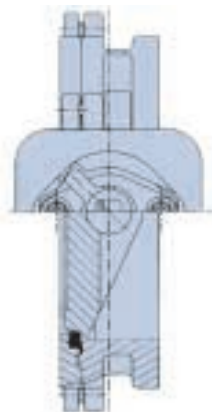

Fig. 1: Travel stop position indicator
- The travel stop is set during assembly at 90° disc angle in order to avoid any over traveling of the disc. (See fig. 1)